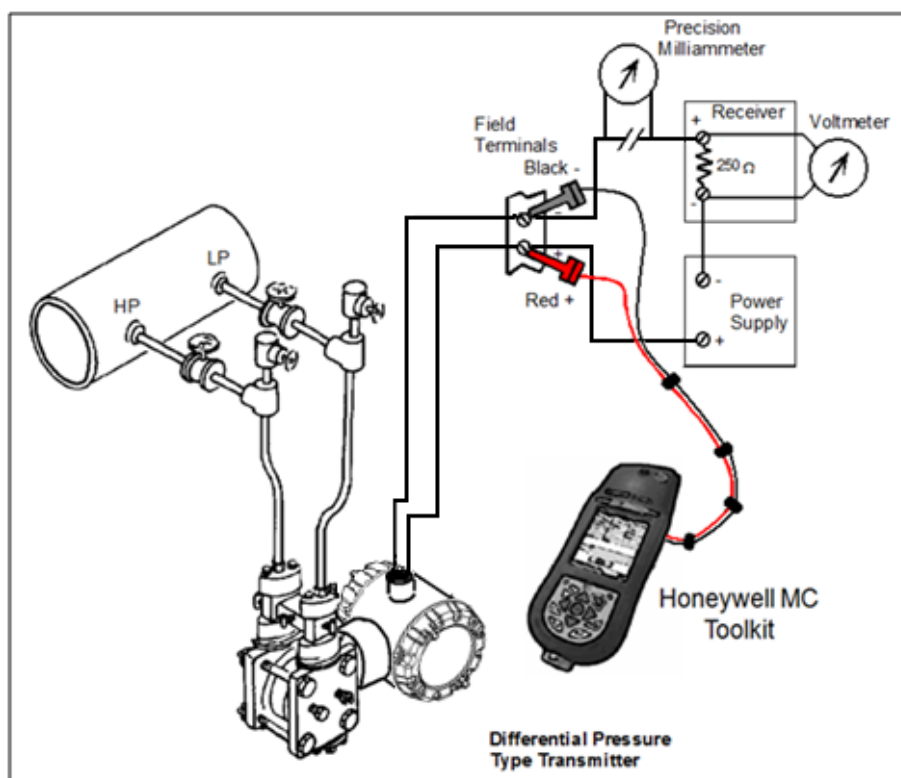

Figure 56 – ST 700 Basic Transmitter - Current Loop Test Connections
10. Refer to Figure 56 for test connections. Verify the integrity of electrical components in the output current loop.